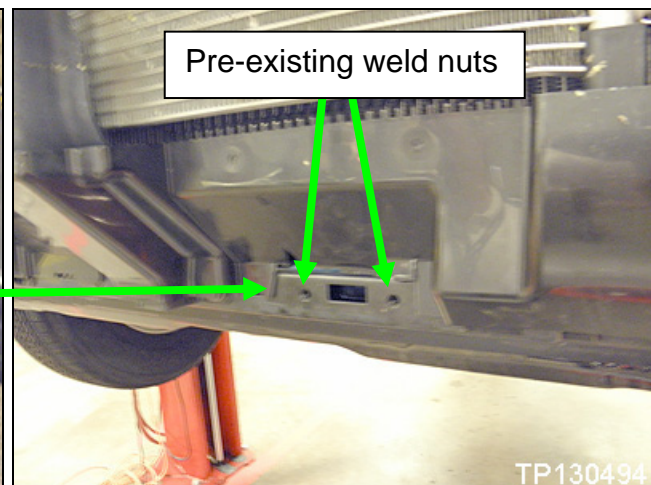
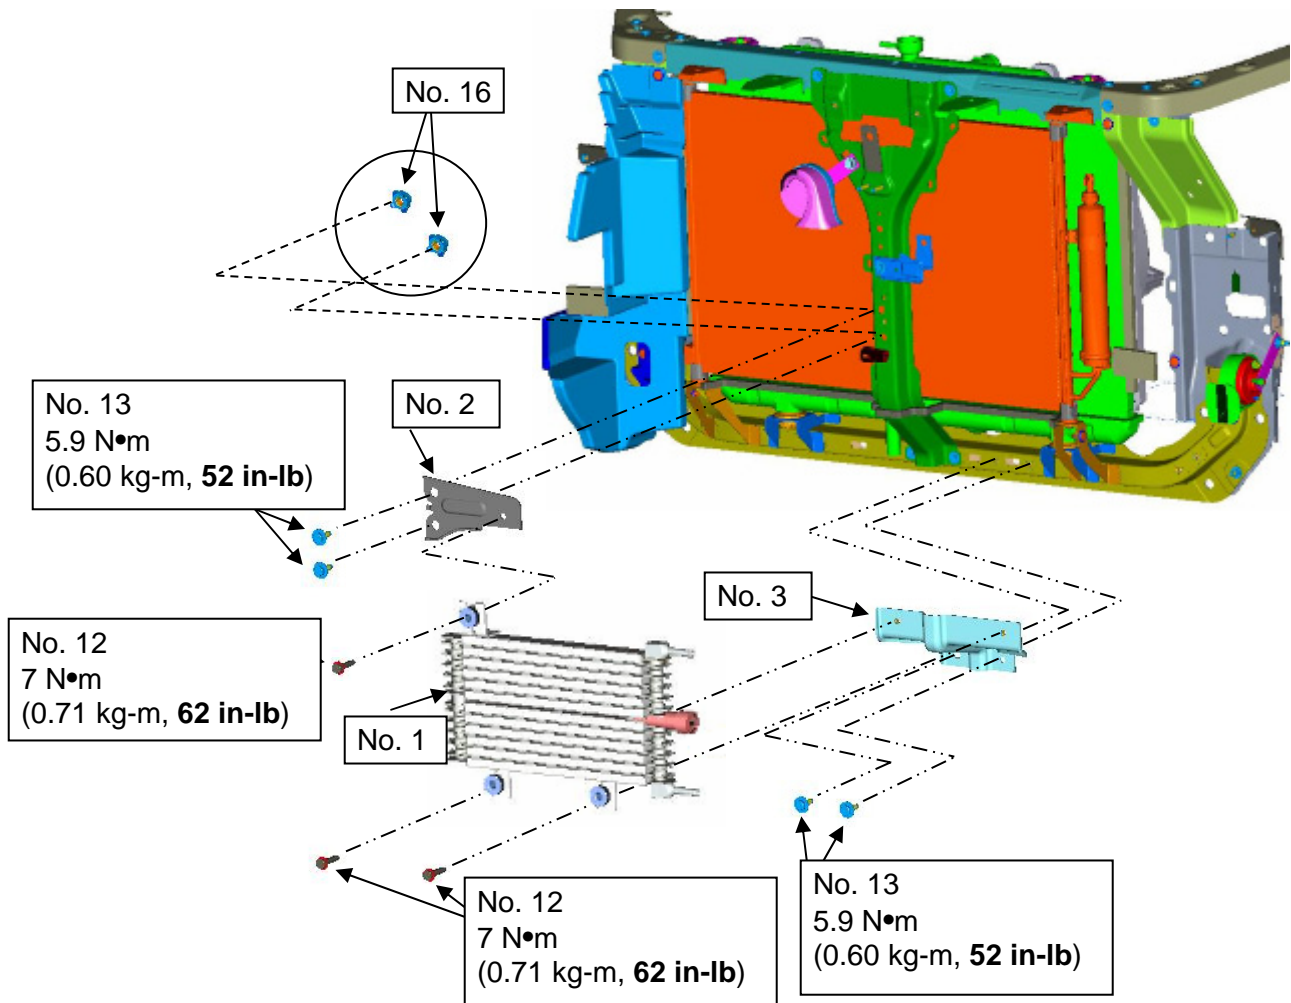
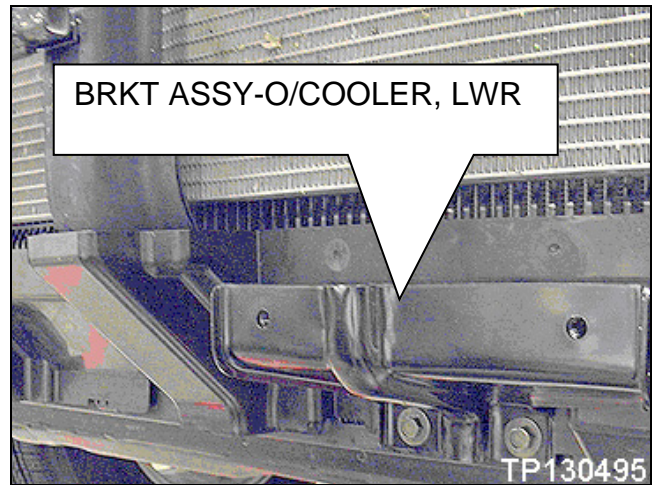

Figure 14
Figure 15
Figure 16
- a. See Figure 14 for reference to locate the pre-existing weld nuts in the lower radiator support that the BRKT ASSY-O/COOLER, LWR (No. 3), shown in Figure 15 and Figure 16, will be attached to.
- b. Place the BRKT ASSY-O/COOLER, LWR from the kit over the SEAL-LOWER and mark "bracket width" where the material will be removed as shown in Figure 12 and Figure 14.
- c. Remove only enough material (Figure 13 and Figure 14) to allow the BRKT ASSY-O/COOLER, LWR to be installed to the lower radiator support (approximately 127mm x 50.8mm [5" x 2"]).
Figure 13 and Figure 14 illustrate the area to remove the material to allow clearance to install the BRKT ASSY-O/COOLER, LWR.
Figure 15 illustrates the COOLER ASSY-AUTO TRANS and attachment points to vehicle and is for reference when performing steps on page 10.
NOTE: Refer to Figure 15 on page 9 for steps 2-4 below.
4. Install COOLER ASSY-AUTO TRANS, OIL (No. 1) and torque all bolts to specifications provided in Figure 15.